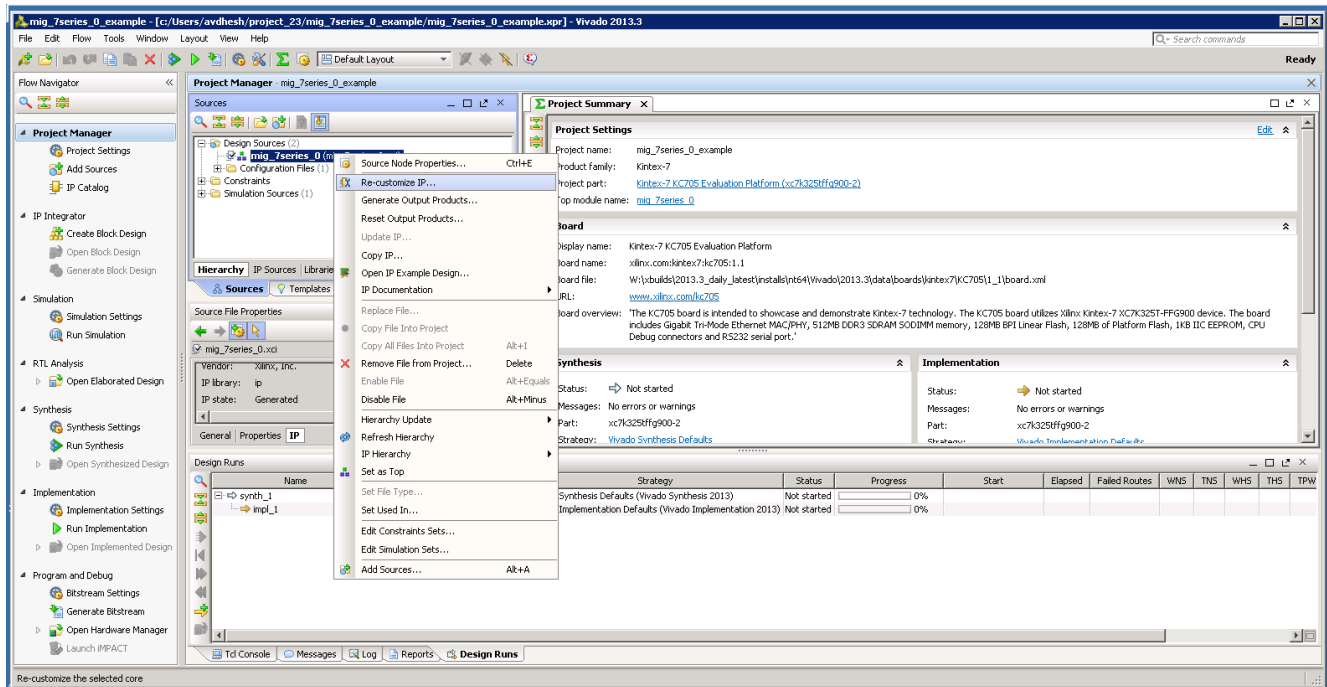

Figure 2-37: Recustomize IP
- Recustomization of the MIG IP can be done by using the **Recustomize IP** option. It is not recommended to recustomize the IP in the example\_design project. The correct solution is to close the example\_design project, go back to original project and customize there. Right-click the XCI file and click **Recustomize IP** (Figure 2-37) to open the MIG GUI and regenerate the design with the preferred options.